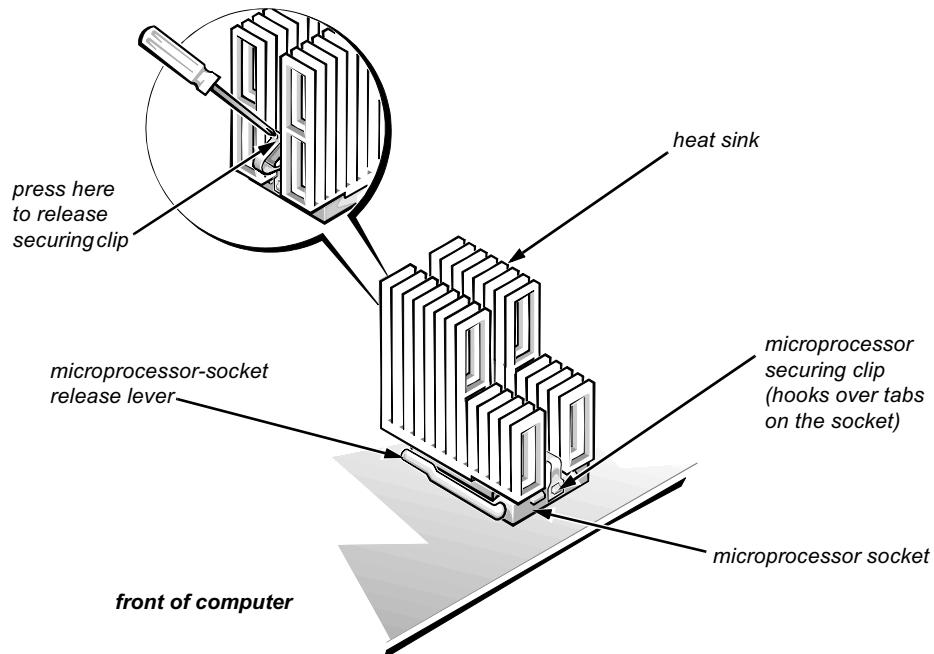

Figure 6-22. Microprocessor Securing-Clip Removal
- 2. Remove the microprocessor securing clip from the microprocessor/heat sink assembly (see Figure 6-22).**